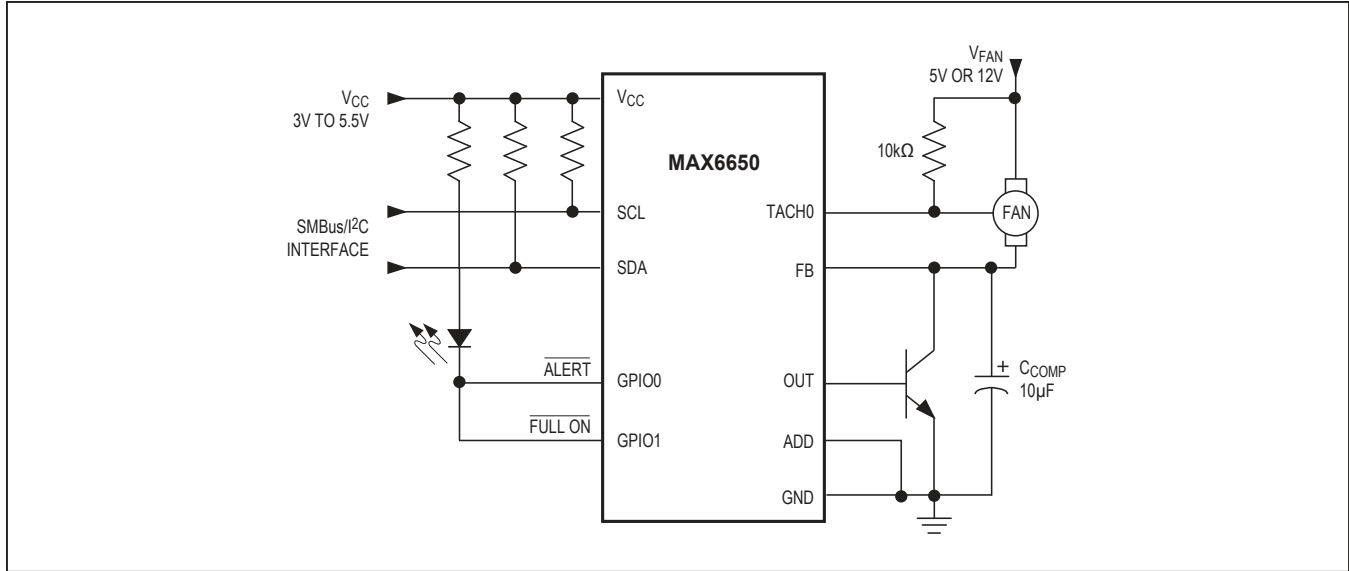

Figure 6. Fan Control with a Bipolar Transistor
voltage, current rating, and drain-to-source on-resistance (RDS(ON)). Gate-to-source conduction threshold must be compatible with available VCC. The maximum gate-to-source voltage and the drain-to-source breakdown voltage rating should both be at least a few volts higher than the fan supply voltage (VFAN). Choose a MOSFET with a maximum continuous drain current rating higher than the maximum fan current. RDS(ON) should be as low as practical to maximize the feedback voltage range. Maximum power dissipation in the power transistor can be approximated by  $P = (V_{FAN} \times I_{FAN(MAX)}) / 4$ . Bipolar power transistors are practical for driving small and midsize fans (Figure 6). Very-high-current fans may require output transistor base current greater than the MAX6650's 50mA drive capability. Bipolar Darlington transistors will work but have poor saturation characteristics and could lose up to 2V to 3V of drive voltage.